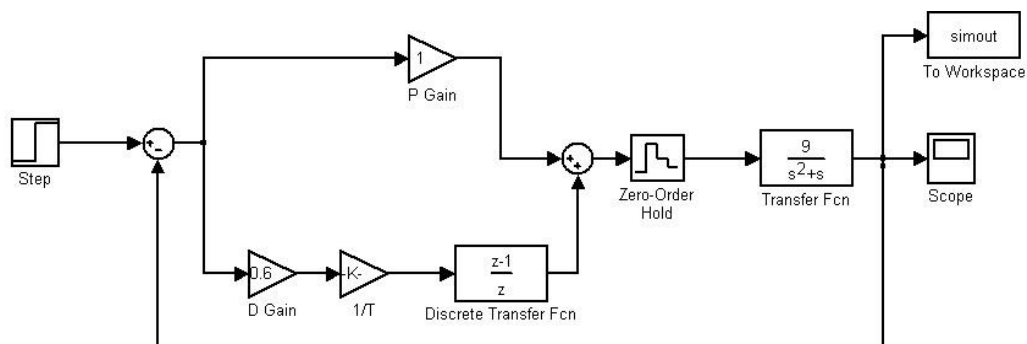

Figure 11 Plant with PD controller discretized by backward rule
**Step 3:** Discretize the analog PD controller  $l_p + l_d s = 1 + 0.6s$  using backward rule ( $C(z) = C(s) \big|_{s=\frac{z-1}{Tz}}$ ) with the sampling period  $T=0.03$  and  $0.1$  seconds respectively. **Note that** the “Sampling time” parameter in the **Discrete Transfer Fcn** block and **Zero-Order Hold** block should be set according to  $T$ . (These two blocks can be found from the *Discrete* panel in Simulink Library Browser.) Plant in simulink is shown as Figure 11. Simulate the closed-loop step responses, compare them with the continuous case in **Step 2**, and comment on the results.